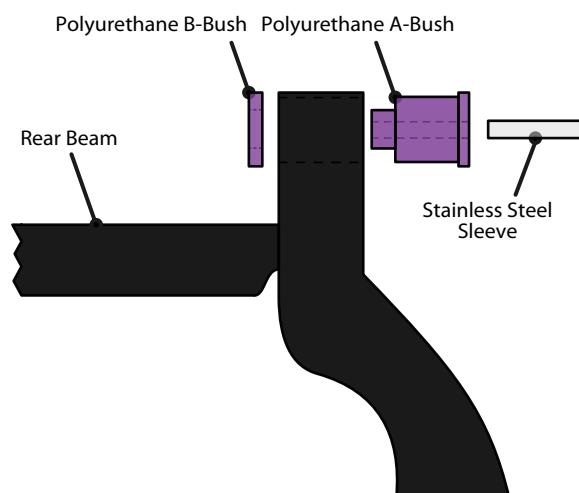

Figure 1 - how the polyurethane bush fits in the rear beam (top view)
3. Insert the larger **A-Bush** into the rear beam as shown in Figure 1, ensuring that the larger-diameter flange faces outwards, towards the wheel.